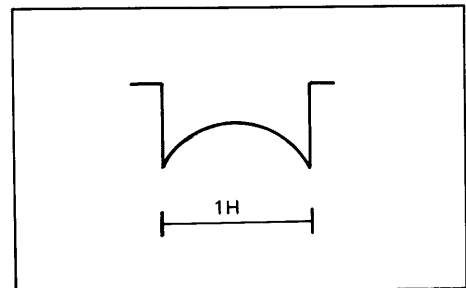

Fig. 51
- 4) Adjust C.B.H. Para. Adj. VR (R606) to achieve waveform as shown in Fig. 51.